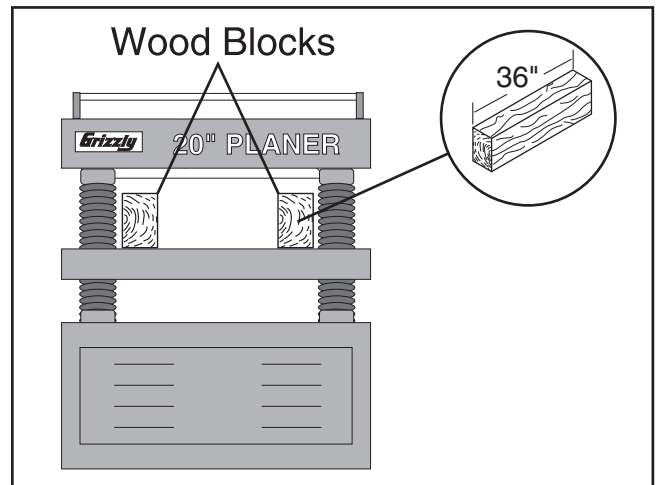

Figure 32. Wood blocks on table.
4. Place one wood block along the left side of the table, and place the other wood block along the right side of the table, as illustrated in **Figure 32**.